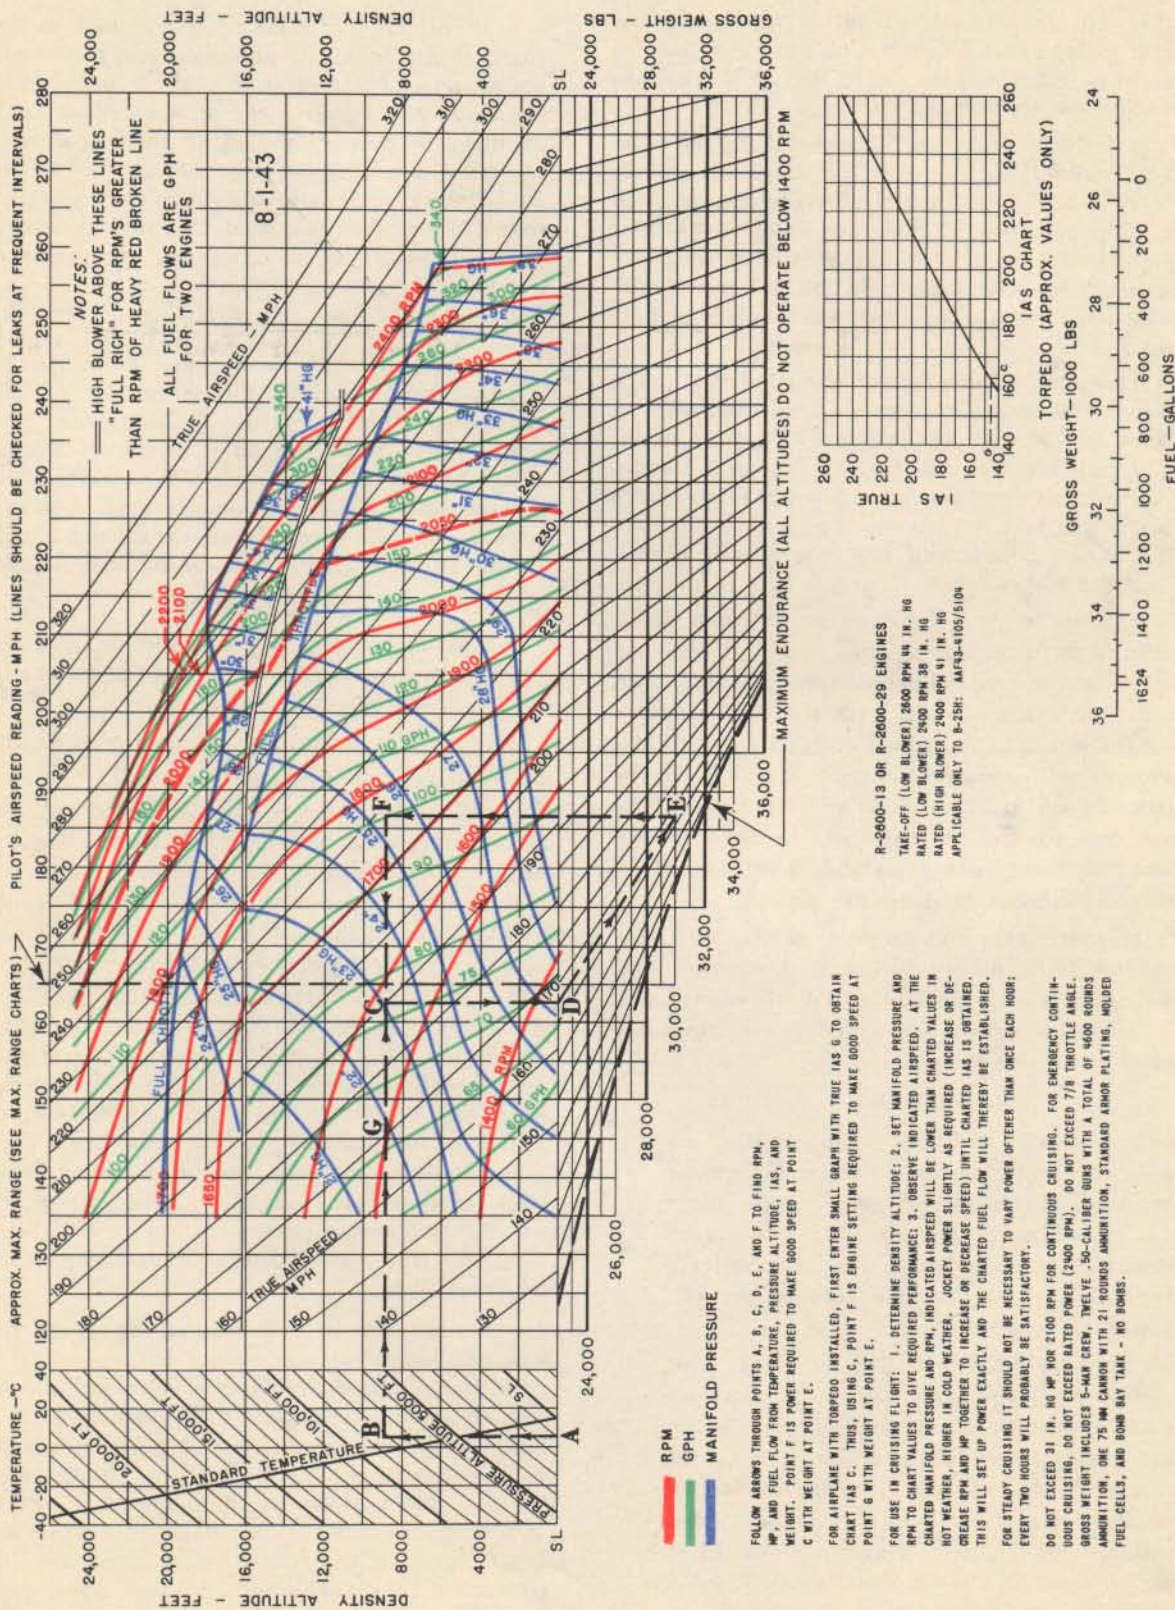

Figure 64—Composite Cruising Control Chart
(See figure 64.)
(1) EXAMPLE. (Illustrated on figure 64.)—To find the operating conditions corresponding to 190 mph true air speed, 8000 feet pressure altitude at +5°C free air temperature, and 30,000 pounds gross weight: Entering the chart at +5°C and 8000 feet pressure altitude, a density altitude of 9000 feet is determined. Follow the 9000-foot line to the intersection with the line of 190 mph true air speed. This intersection occurs at 163 mph pilot's uncorrected indicated air speed. (To obtain actual pilot's indicated air speed, apply instrument correction. If, for example, the instrument reads 2 mph high in this range, the actual instrument reading would be 165 mph.) Project this point vertically along the 163